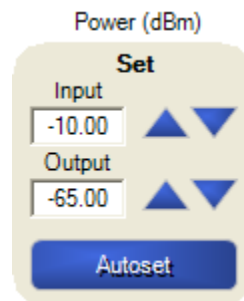

Figure 1-20: Output Level Meter
12. Program the Output Level to **-65 dBm**, as shown in Figure 1-20.